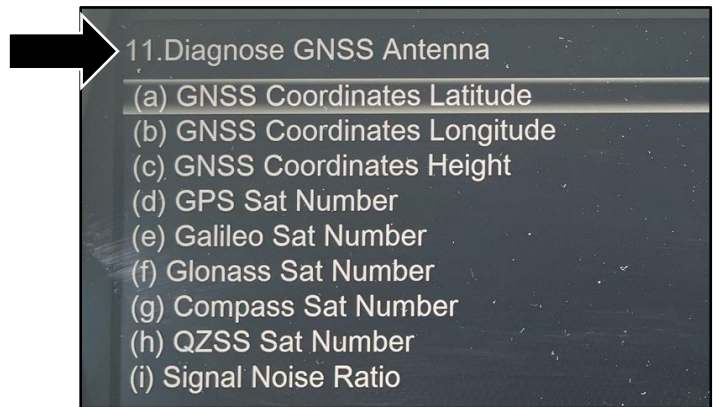

Figure 2
3. In the "Dealer Menu" scroll down and select "Diagnose GNSS Antenna" (refer to Figure 2).